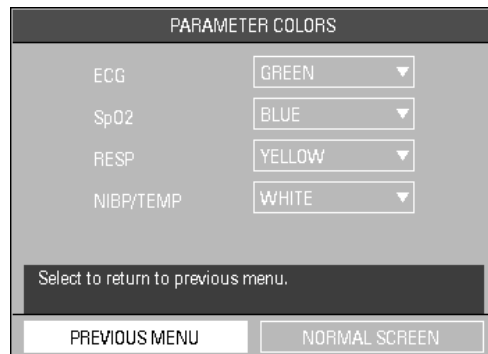

FIGURE 2-11 Parameter Colors Menu
1. Select **PARAMETER COLORS** from the **MONITOR SETUP** menu. The **PARAMETER COLORS** menu (FIGURE 2-11) is displayed. From this menu, the colors for displayed parameters can be selected. The numeric and waveform data for each parameter displays in the same color, as selected by the user. The color choices are: **GREEN, RED, YELLOW, BLUE,** and **WHITE**.